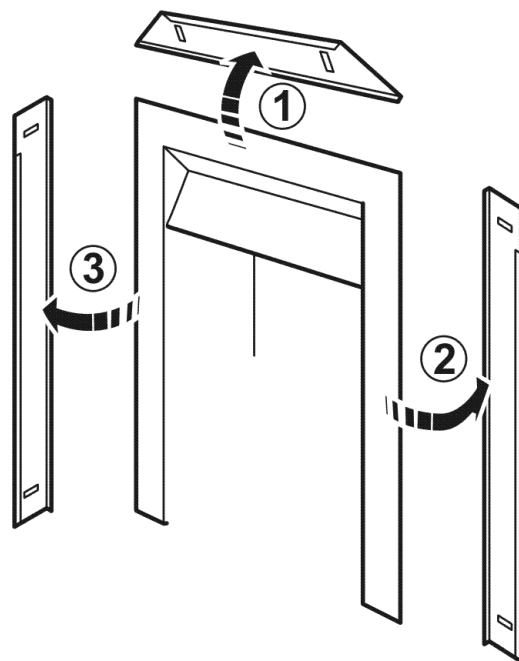

Figure 34. Removal of fascia
2. The fascia is made up of three trims. These trims are held in place by magnets. Remove the top trim by pulling forward. Place carefully aside (See figure 34).
3. Remove the side trims by pulling forward. Place carefully aside (See figure 34).
5. Siva fascia same as in Figure 34 except the fascia is all one piece.